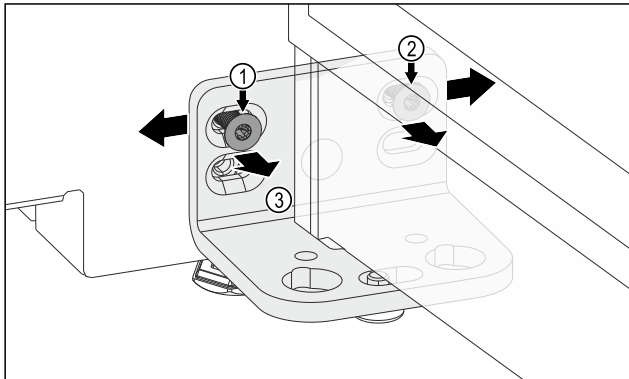

Fig. 11
- ▶ Loosen screw Fig. 11 (1) and screw Fig. 11 (2). For screw Fig. 11 (2) you need a short hex key.
- ▶ Slide the door with the hinge angle bracket Fig. 11 (3) to the left.
- ▶ Slide the door with the hinge angle bracket Fig. 11 (3) to the right.
- ▶ The door's end position is reached: Tighten screw Fig. 11 (1) and screw Fig. 11 (2).